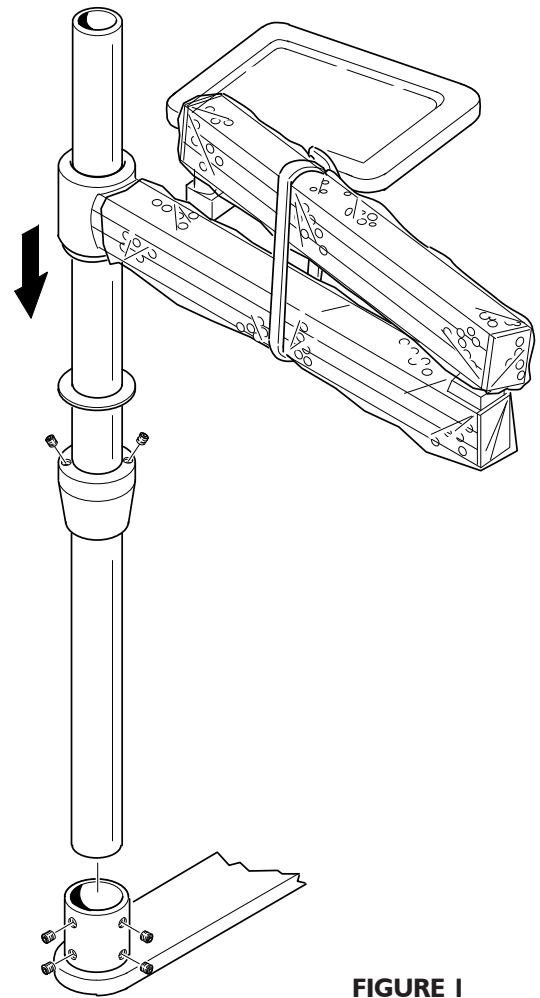

FIGURE 1
1. Install the unit post on the chair mount bracket (see Figure 1). Using the post leveling tool DCI #8668 and the appropriate hex key, adjust the set screws in the chair mount bracket to set the post in a perfectly vertical position. A slight deviation will cause the control unit and tray to not be level, allowing instruments to roll on the tray.
2. Install the arm assembly with control unit on the unit post as follows: (Figure 1 covers the next four steps).